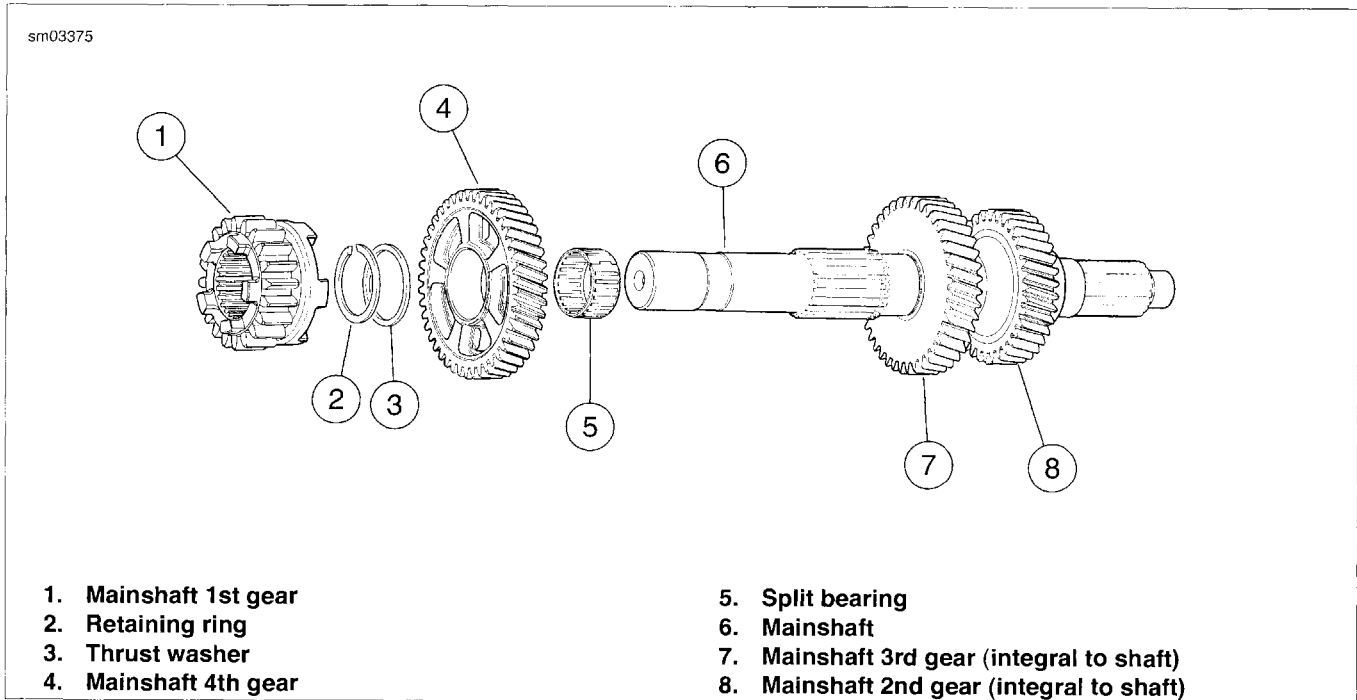

Figure 5-68. Transmission Mainshaft Assembly Once Removed from Left Crankcase/Disassembly
1. See Figure 5-68. Install **new** split bearing (5) in 4th gear position on mainshaft.
2. Install 4th gear (4) and thrust washer (3).
3. Using RETAINING RING PLIERS (Part No. J-5586-A), expand and install new retaining ring (2).
4. Install 1st gear (1).